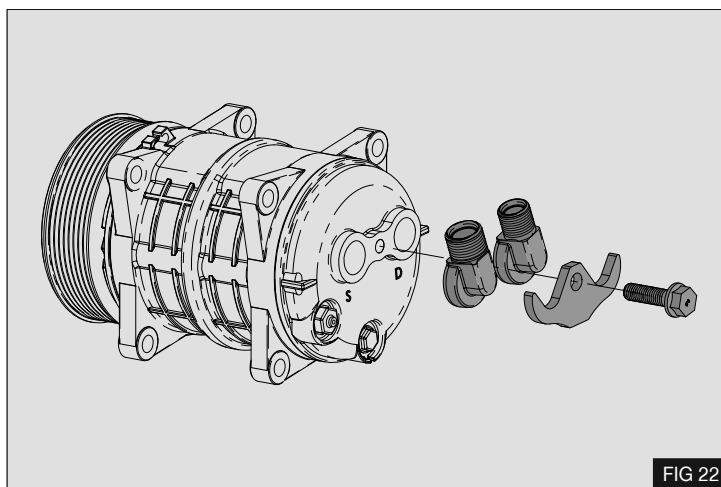

FIG 22
26. Fit the supplied Manifold assembly (16) to the compressor. Do not fully tighten the clamp bolt until after the pipe fittings have been installed - Fig 22